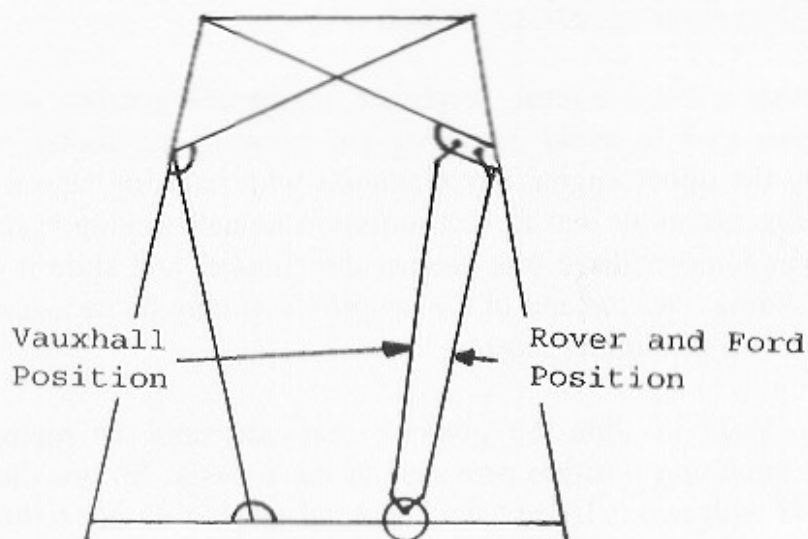

Figure 10A.3.1 Upper Engine bay Diagonals
2.1 This is a complicated aluminium casting, and although it will have been pressure washed by both the manufacturers and Caterham Cars, it is possible that some sand may remain in the oil tank. It is vitally important therefore to check inside very carefully and to scrub out any remaining sand residues. The bellhousing assembly is shown in figure 10A.2.
- 3.1 The two removable upper engine bay diagonals allow the engine and gearbox assembly to be fitted as a unit, once the diagonals have been removed. This greatly simplifies assembly as fitting the engine to the gearbox is very much easier out of the car. Take care to ensure the fixings for the diagonals are retained, so the correct bolts can be re-used. Please note that the diagonals are fitted in a different position on Vauxhall powered cars (see figure 10A.3.1
4.6 Refit the upper engine bay diagonals as in figure 10A.3.1, noting that the right hand diagonal passes under the inlet manifold and is attached in a different position to the Ford. Refit the 5/16" x 1 3/4" caphead bolts and torque to 25 lbft.